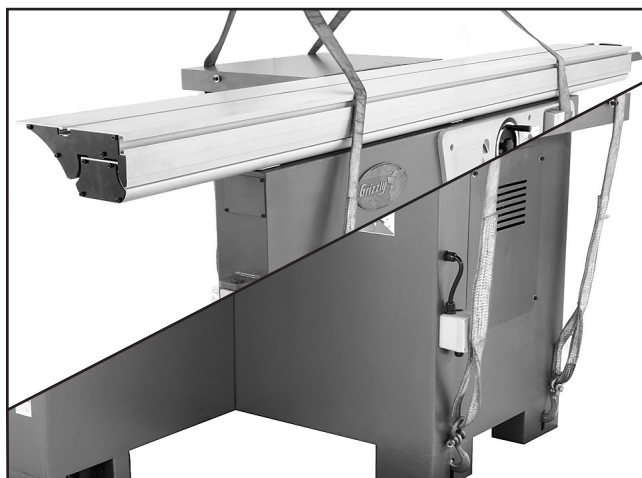

Figure 17. Lifting the saw base unit.
2. Place two lifting straps (with hooks on the ends) over the forks and slide the hooks into the points shown in **Figure 17**.